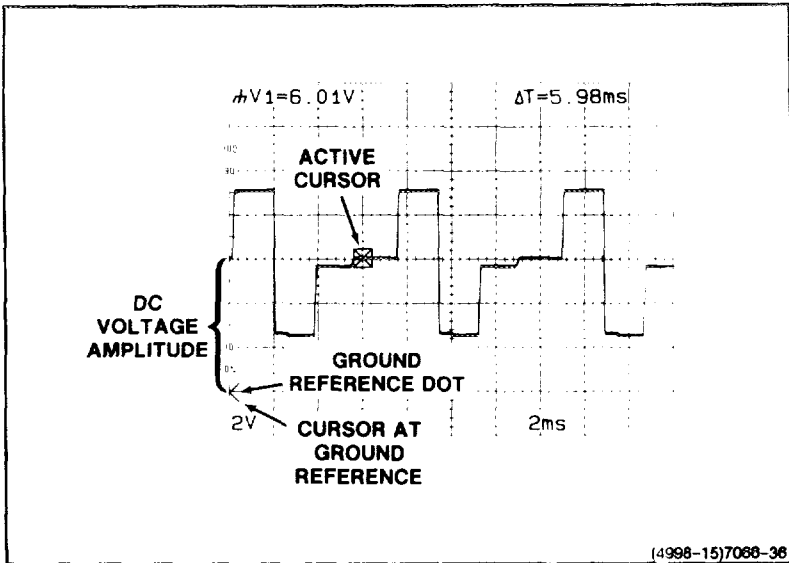

Figure 6-11. Ground-referenced dc voltage, cursor method.
8. Use the CURSORS control to move the active cursor to the point of interest on the waveform (see Figure 6-11).